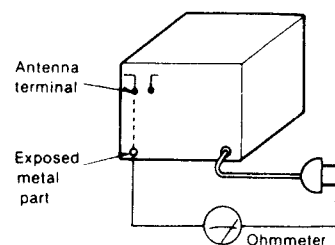

Fig. 1
3. Measure the resistance value with ohmmeter between the jumpered AC plug and each exposed metal cabinet part, such as screwheads, antenna, control shafts, handle brackets, etc. Equipment with antenna terminals should read between 3 MΩ and 5.2 MΩ to all exposed parts*. (Fig. 1) Equipment without antenna terminals should read approximately infinity to all exposed parts. (Fig. 2)